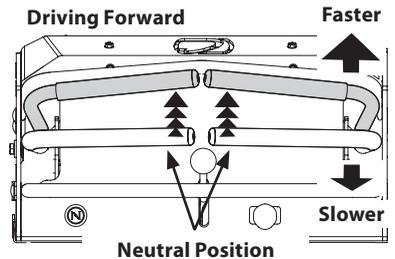

Figure 11
1. Slowly and evenly move both drive control levers forward. The mower will start to move forward (Figure 11).